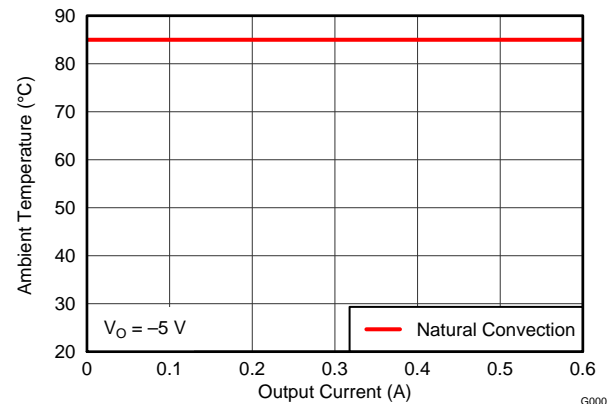
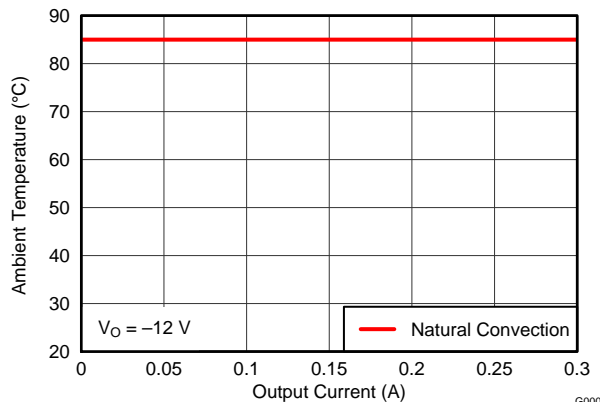
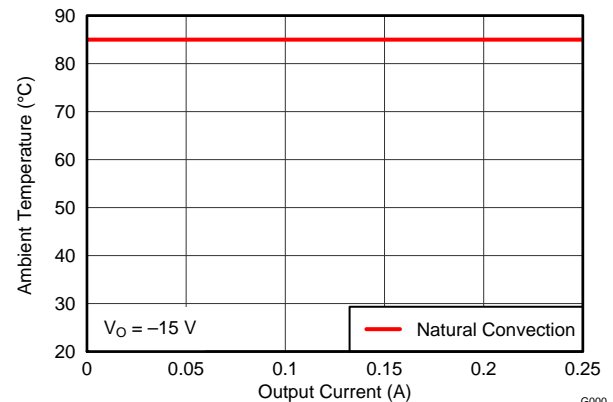

Figure 6. Safe Operating Area
Figure 7. Safe Operating Area
Figure 8. Safe Operating Area
- (2) The temperature derating curves represent the conditions at which internal components are at or below the manufacturer's maximum operating temperatures. Derating limits apply to devices soldered directly to a 100 mm × 100 mm, 4-layer, double-sided PCB with 1 oz. copper. Applies to Figure 6, Figure 7, and Figure 8.